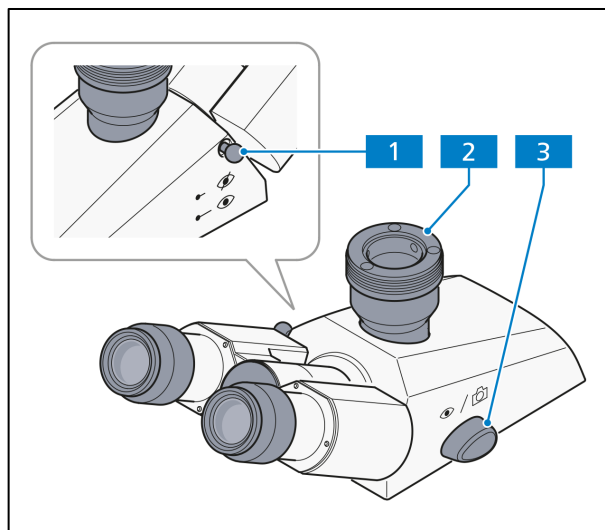

Fig. 2-8 Binocular photo tube
- Push-pull rod (Fig. 2-8/1) pushed in:
- Push-pull rod (Fig. 2-8/1) pulled out:
The photo port (Fig. 2-8/2) of the binocular tube can be used to mount a reflex camera, a microscope camera or a video camera with the aid of appropriate adapters.
- Shift knob (Fig. 2-8/3) in forward position (eye symbol):
- Shift knob (Fig. 2-8/3) in back position (camera symbol):